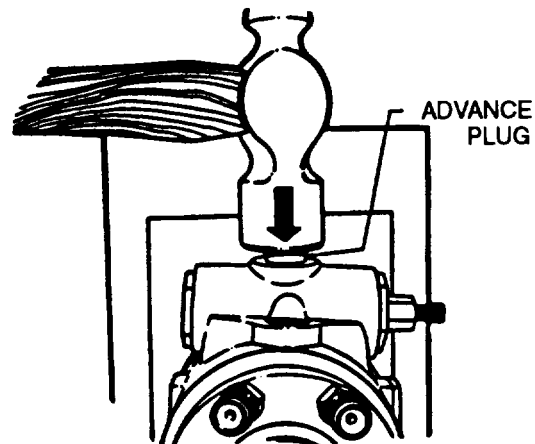

FIGURE 3-58. Advance Screw Hole Plug (Typical)
- w. Using a hammer, lightly tap advance screw hole plug (54, FIGURE 345) to loosen it, refer to FIGURE 3-58.